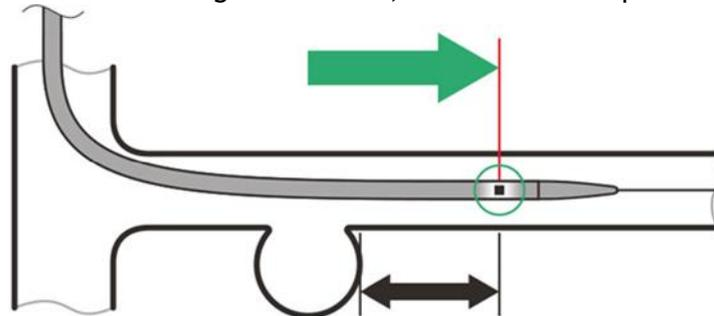

Figure 4.
6. Advance the whole system until the radiopaque marker at the delivery system tip (which indicates the upper limit of the MFM[®]) is placed above the target lesion site, at least 10 mm upstream (see Figure 4).